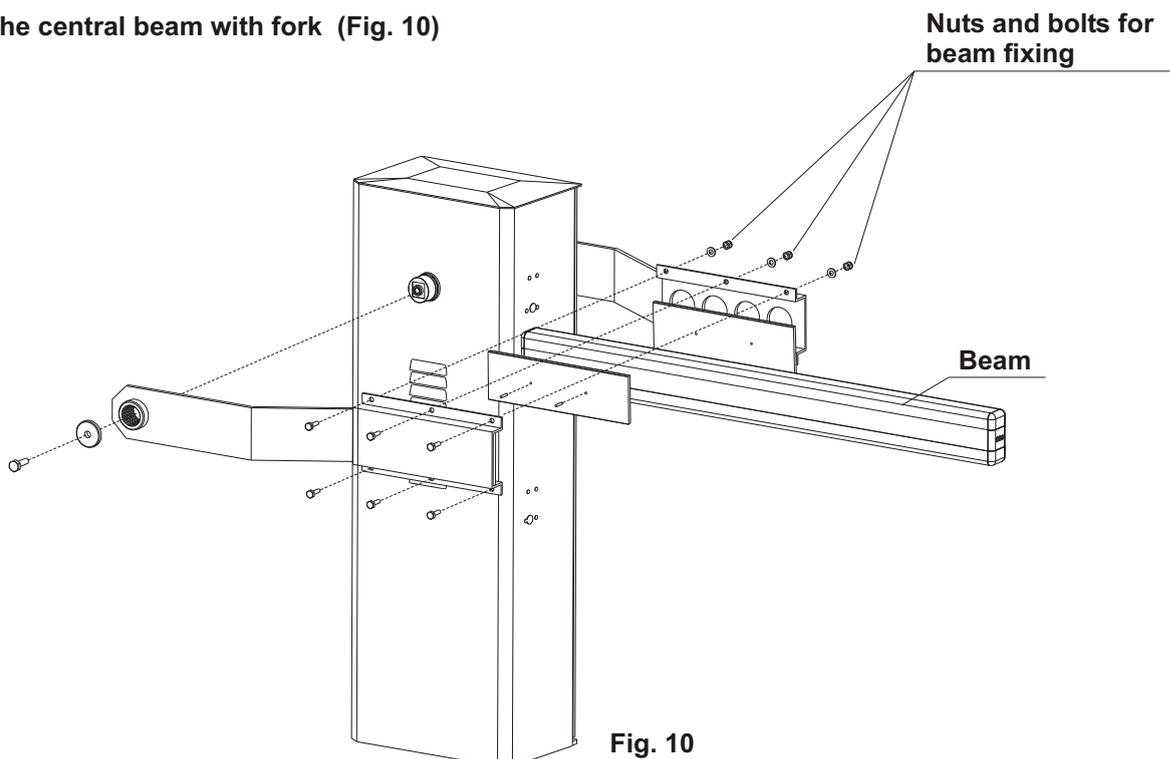

Fig. 10
5) Mounting of the central beam with fork (Fig. 10)